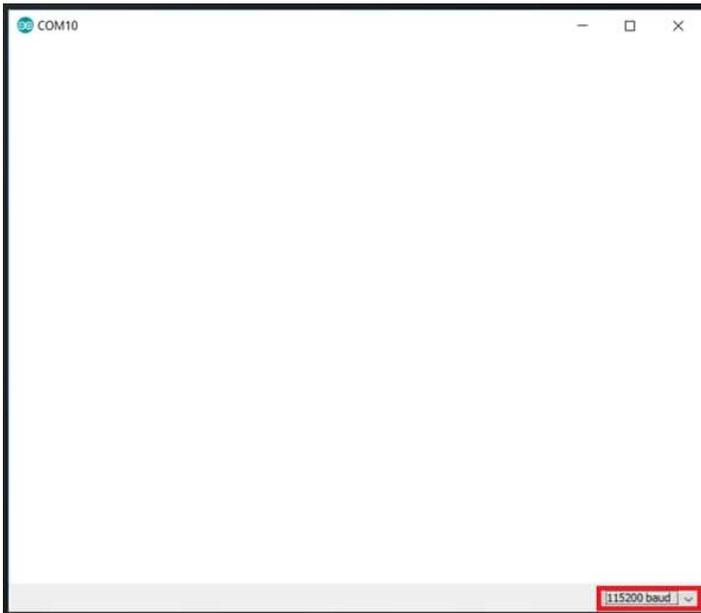

Figure 11. Displays the Arduino IDE serial plotter. The baud rate selection is highlighted with a red box.
14. Launch the Arduino IDE and open the serial plotter by navigating to Tools/Serial Plotter; this launches a new window, as displayed in Figure 11.
15. Change the baud rate to 115200bps by clicking the drop-down menu in the lower right-hand corner, as highlighted in Figure 11. Select 115200.